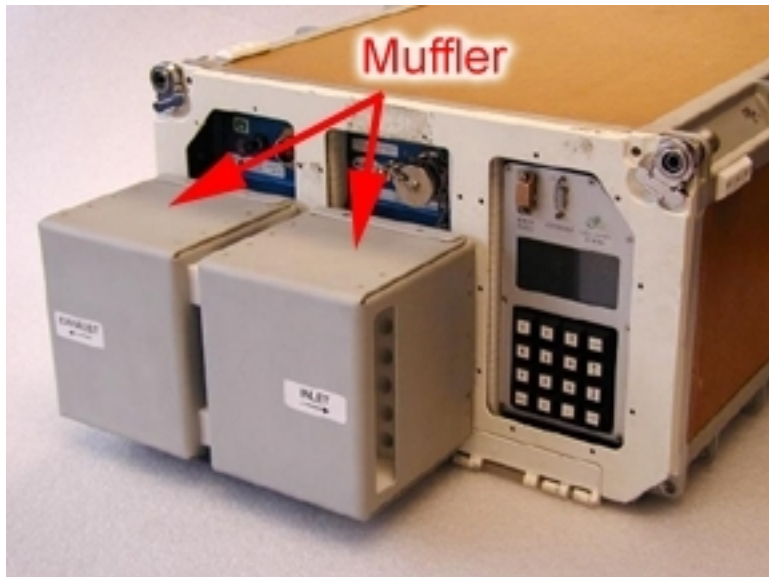

Figure 1. CGBA Muffler
2.5 Remove mufflers (see Figure 1) and temporarily stow.